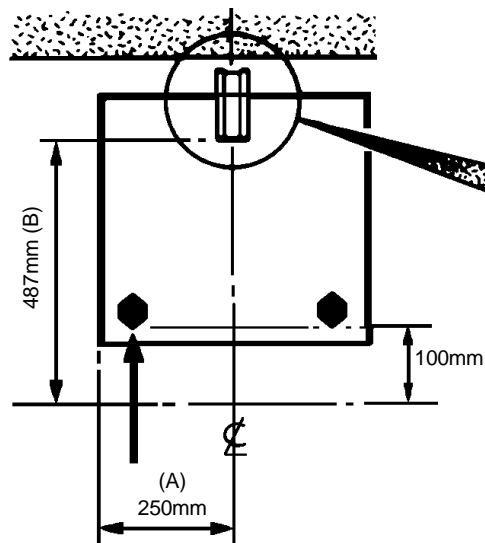
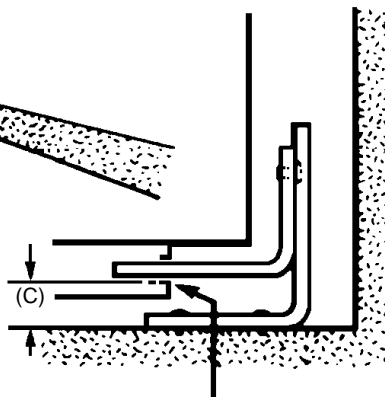

Fig.2
Fig.3
2. Mark off 250mm from the left hand side of the appliance as shown in dimension 'A', Fig 2. This is the centre line of the fixing bracket.
3. Draw a line 100mm from the front edge of the levelling feet (see Fig 2) and remove appliance from its position. Mark off dimension 'B' (see Fig 2) back from this line on the centre line of the bracket to locate the front edge of the lower bracket. Fix lower bracket (with two fixing holes) to the floor then measure the height from floor level to engagement edge on back of appliance, dimension 'C' of Fig. 3.
4. Assemble upper bracket to lower bracket so that underside of bracket is dimension 'C' +3mm above floor level. (see Fig. 3).